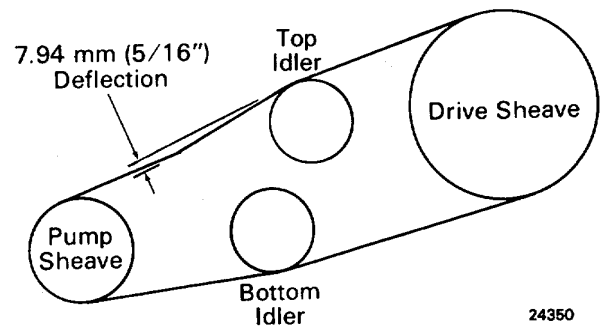

Fig. 10-13- Checking Drive Belt Tension
6. To final adjust tension on drive belt, adjust square head set screw on lower idler bracket. Check tension by applying a perpendicular force at the center of the belt span between the pump and top idler sheaves, as shown in Fig. 10-13. Proper adjustment is achieved when belt is tensioned to a reading of 20 to 24 lbs at 7.94 mm (5/16") belt deflection using tension tester 8396624.